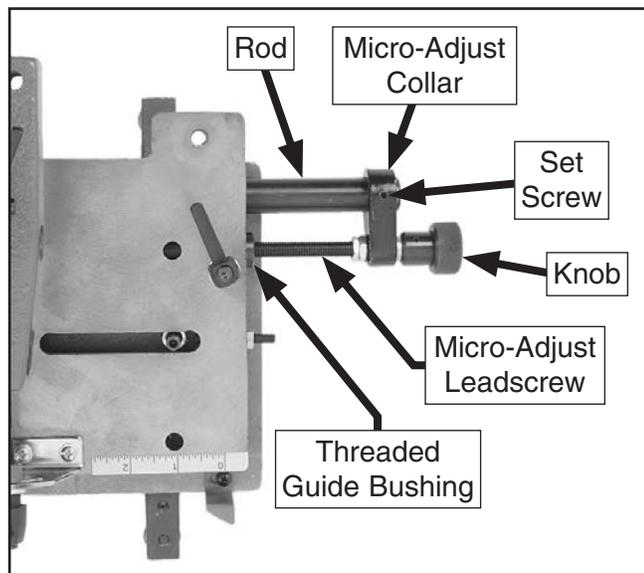

Figure 13. Micro-adjust assembly properly positioned.
- Slide micro-adjust collar onto rod, align micro-adjust leadscrew with threaded guide bushing of slide plate, then rotate knob clockwise until collar is even with rod, as shown in **Figure 13**.